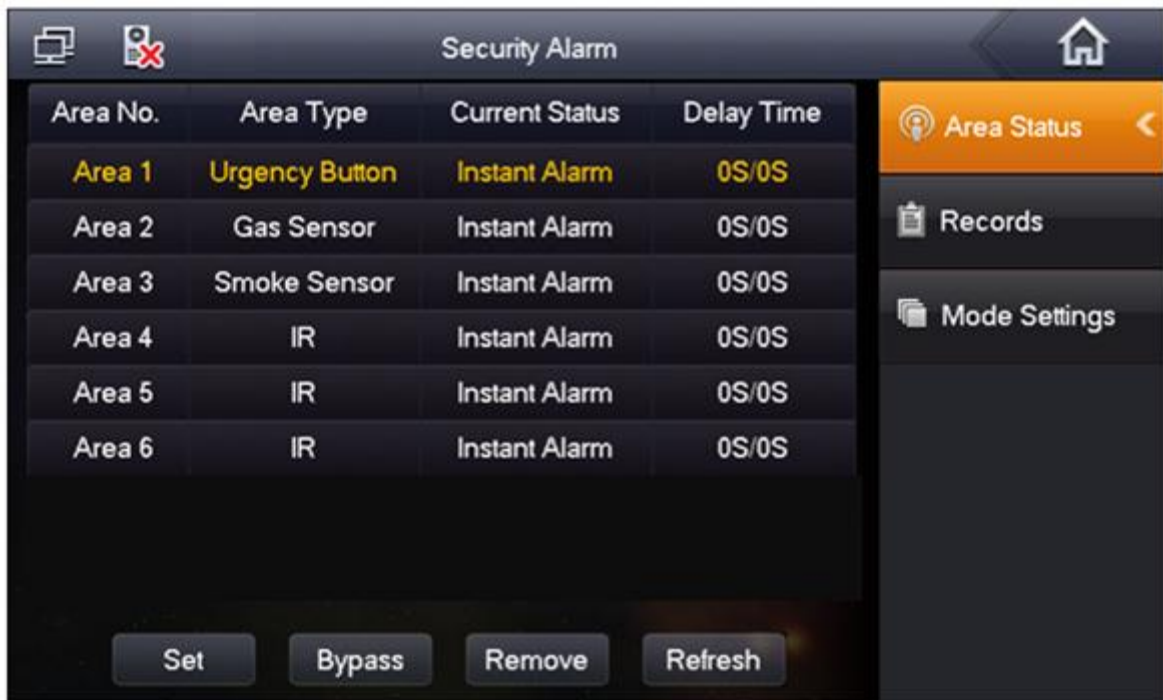

Figure 3- 4
Step 1. Click  **Area Status**, interface shows current 8-ch area status, including Area Type, Current Status, and Delay Time. See Figure 3- 4.
Step 2. Click Set, input password, to enter area setting interface. See Figure 3- 5.